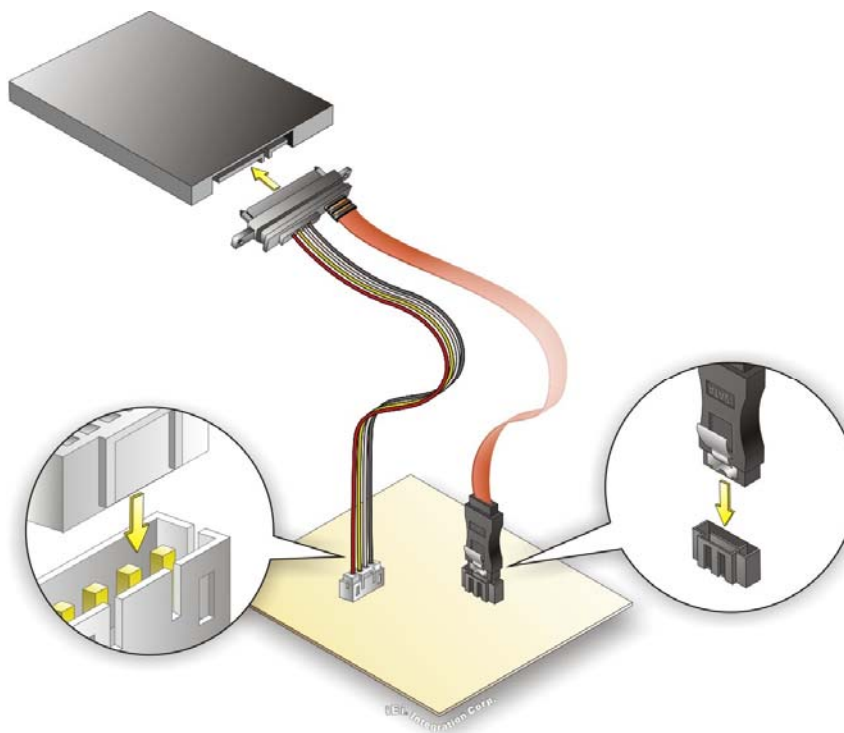

Figure 4-13: SATA Drive Cable Connection
Step 2: Insert the **cable connector**. Insert the cable connector into the on-board SATA drive connector and the SATA power connector. See **Figure 4-13**.
Step 3: Connect the **cable to the SATA disk**. Connect the connector on the other end of the cable to the connector at the back of the SATA drive. See **Figure 4-13**.